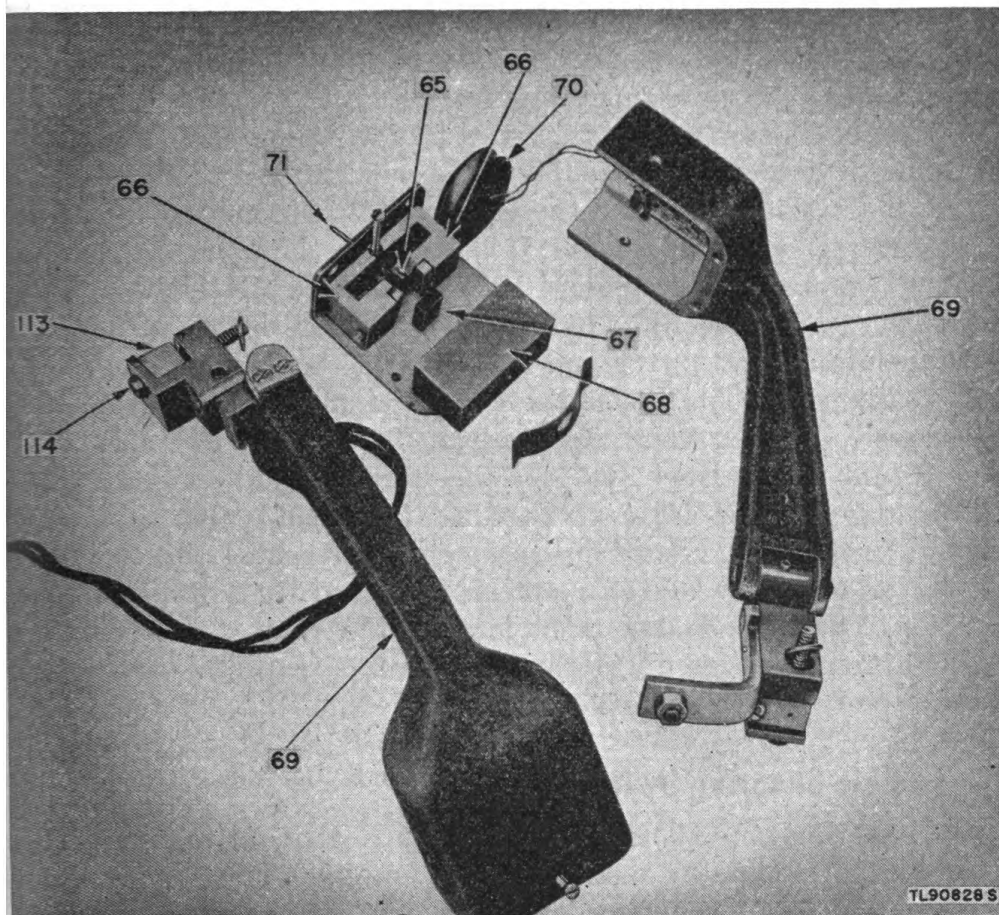

Figure 33. Playback head, disassembled.
(7) *Playback arm* (fig. 33). Disassemble as outlined in paragraph 92. Apply 1 or 2 drops of PS to hinge-block bearings at the support end of playback arm (69).
**a. CONSTRUCTION AND CHARACTERISTICS** (fig. 33). The playback head uses an armature which, supported on rubber sleeve bearings, moves in a magnetic field between two pole pieces. The armature (65) is held centered between the pole pieces (66) by a rubber dampening block (67). The magnetic field is supplied by a permanent magnet (68). The playback head is mounted in an aluminum arm (69) which is pivoted on the carriage. The playback head is of the high-impedance magnetic type. Its frequency range is from 150 to 3,500 cycles. The d-c resistance of the coil is 2,000 ohms. The impedance at 1,000 cycles is 10,000 ohms.
**b. OPERATION OF PLAYBACK HEAD** (fig. 33). The manner in which the playback head operates is electrically opposite to the operation of the recording head. In the recording head, the changes in magnetic flux cause the armature to vibrate. In the playback head (also called the pick-up head) the armature vibrates and causes a varying magnetic field which in turn causes a